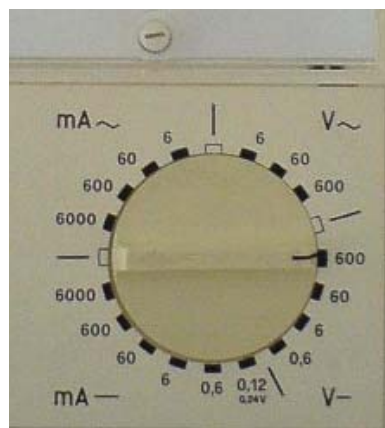

Fig. 11
- Select the 600 V d.c. measurement range on the multi-range meter as shown in Fig. 11